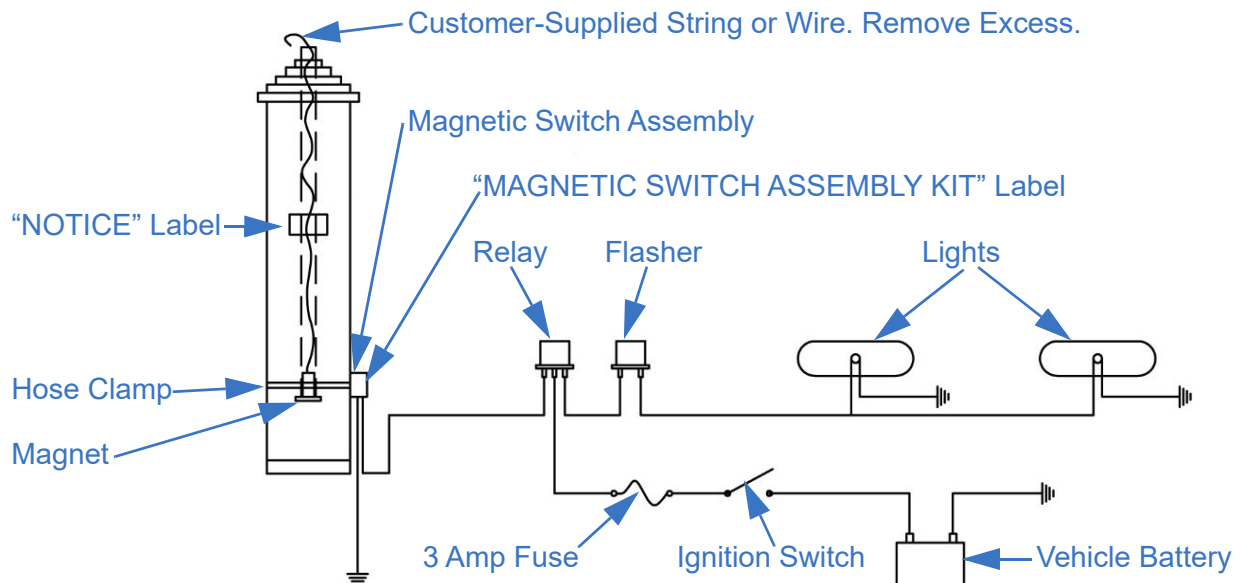
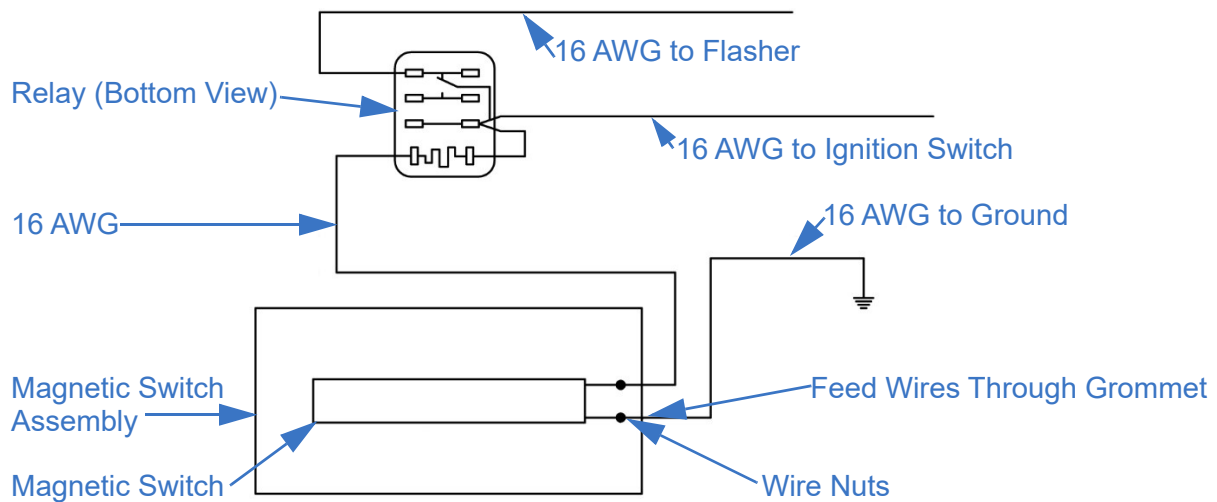

Figure 5-30 Wire the Magnetic Switch Assembly Kit
Figure 5-31 Relay and Magnetic Switch Assembly Wiring
- b. 10-38, 12-48, 7-42, 8.5-48, 9-50, 8.5-52, 9.5-56, 9-58, 10-60, 9-50, 10.3-60, 10.8-76, 8-39, 11.3-59, 9.8-65.6, and 14.3-80: Use 16 AWG stranded wire (customer-supplied) to connect the flasher, lights, and relay to the wires exiting the Magnetic Switch Assembly (Figure 5-30 and Figure 5-31).
14. Attach the “NOTICE” label in a visible area on the base tube (Figure 5-30).
15. Attach the “MAGNETIC EXTENSION WARNING KIT” label to the Magnetic Switch Assembly (Figure 5-30).